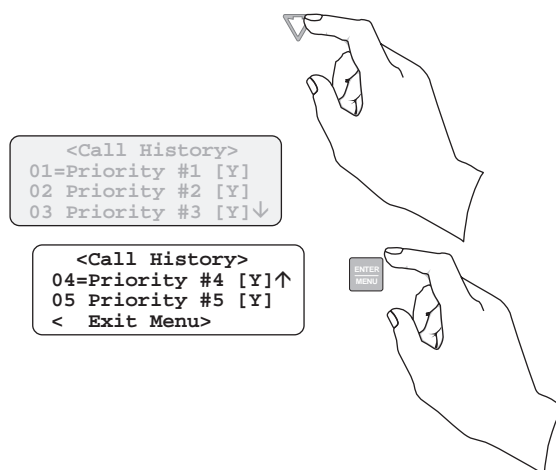

Figure 4-14 Call History Options
- Press the ▲ or ▼ button to move through the call history menu choices (Figure 4-14).